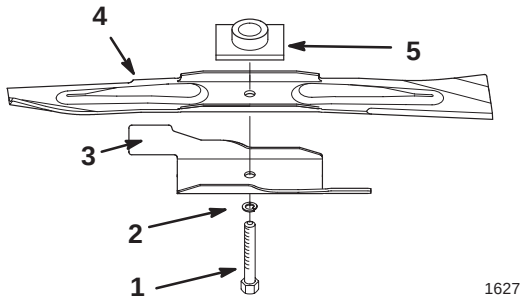

Figure 18
2. Remove the blade bolt, the lock washer, the accelerator, and the blade (Fig. 18).
1. Install a sharp, balanced Toro blade, an accelerator, a lock washer, and the blade bolt (Fig. 18).